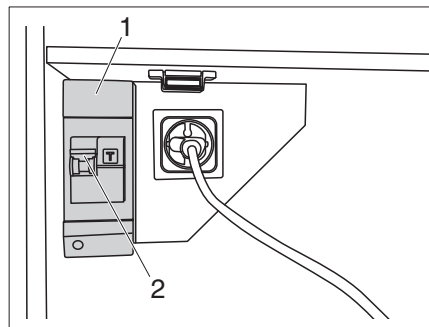

Fig. 42 230 V automatic circuit breaker
The 230 V connection is protected by a two-pole automatic circuit breaker (Fig. 42,1).
- ▷ The residual current circuit breaker (Fig. 42,2) for 230 V should be tripped once annually so that the mechanism does not "stick" and the tripping time is not extended.